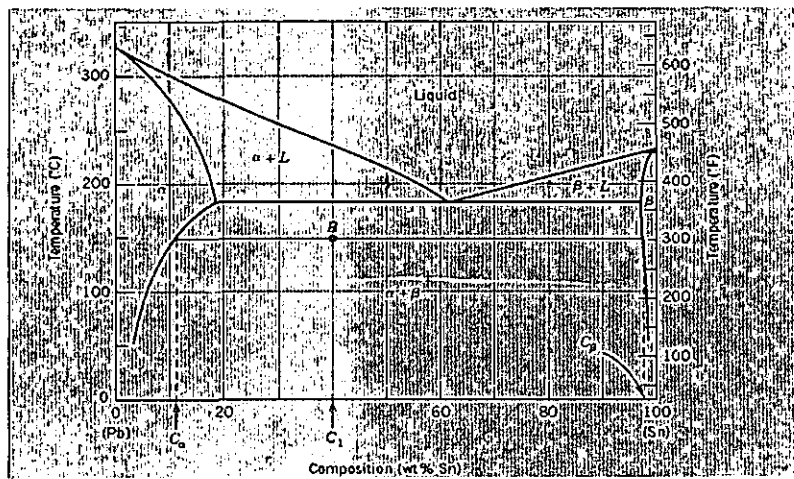

Figure 1: Lead-Tin Phase Diagram
- (c) Solders are metal alloys that are used to bond or join two or more components (usually other metal alloys). Majority of solders are Pb-Sn alloys and these materials reliable, inexpensive and have low melting points. The most common lead–tin solder has a composition of 63 wt% Sn–37 wt% Pb as seen in a lead–tin phase diagram in Figure 1.
2. For the lead-tin system in figure 1, at 150°C take the densities of Pb and Sn to be 11.23 and 7.24 g/cm3 respectively. Calculate the relative amount of each phase in terms of